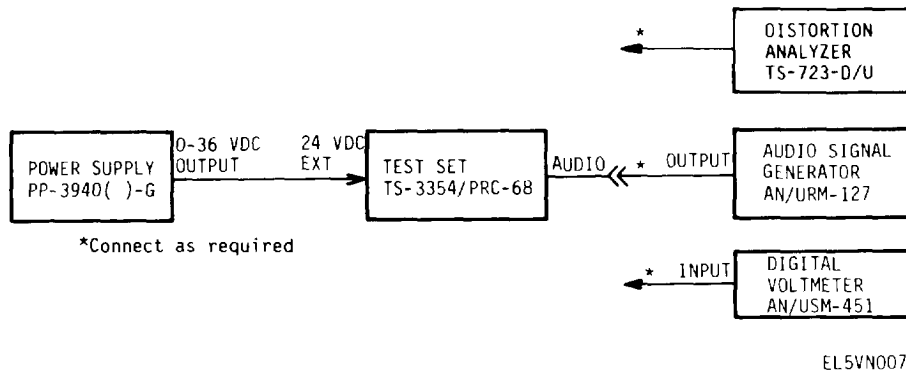

Figure 5-7. Receiver sensitivity measuring circuit test setup
- (1) Audio Signal Generator AN/URM- 127
- (2) Digital Voltmeter AN/USM+51
(3) Power Supply PP-3940/G
(4) Distortion Analyzer TS-723D/U.
d. Test Connections and Conditions. Connect equipment as shown in figure 5-7.